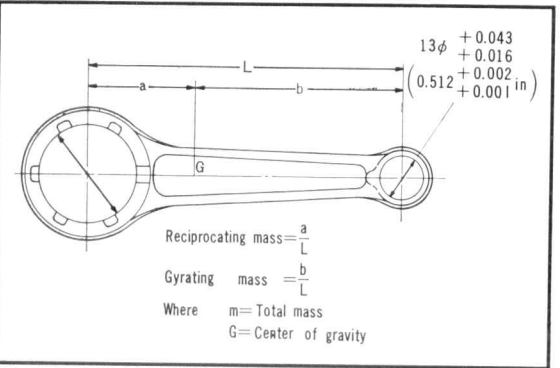

Figure 3-77. Connecting rod
- (7) Connecting rod small end I. D. (Fig. 3-77)